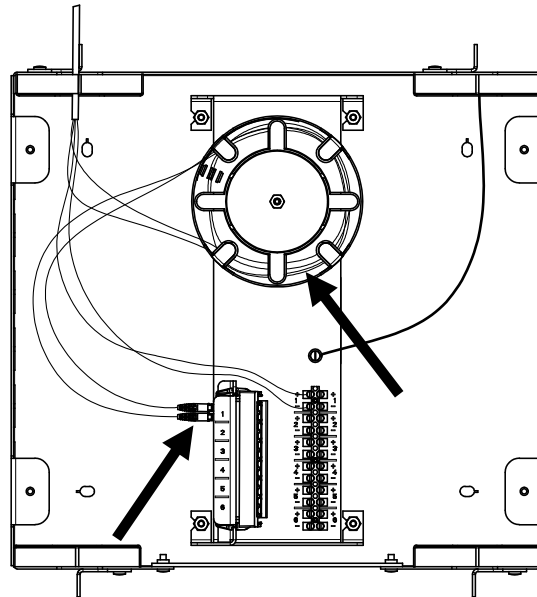

Figure 8
7. Clean and install the LC terminations into the adapter; see installation and cleaning instructions: TECP-96-194. Store excess fiber on the spool, as shown in **Figure 8**.